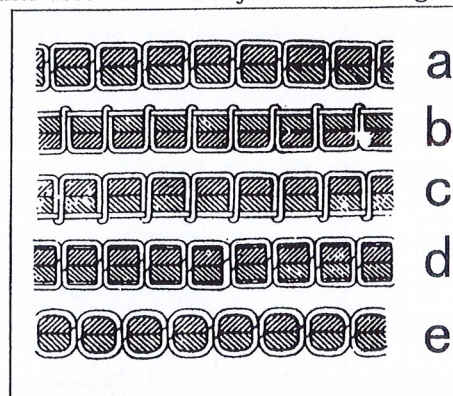
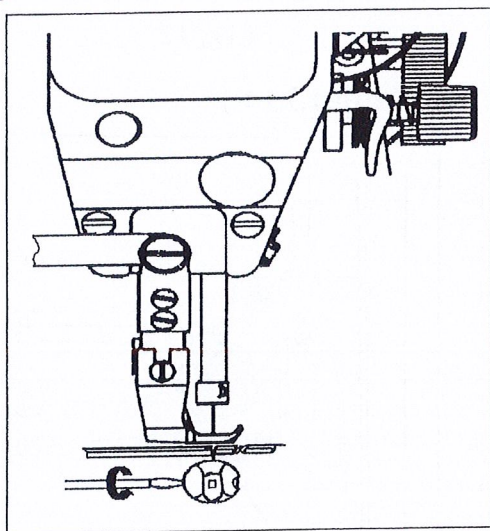

Fig. 15
Fig. 16
## 14. ADJUST THREAD GUIDE AND THREAD TENSION ( Fig.15,16 )
Fig.15 shows different stitch forms. Normal stitch form should be as shown in Fig.15 ( a ). When abnormal stitches cause puckering and thread break-age, the tension of needle thread and bobbin thread must be adjusted accordingly.
1) In case needle thread tension is too strong or bobbin thread tension is too weak, as shown in Fig.15 ( b ), turn the thumb nut counterclockwise to decrease the needle thread tension, or tighten the tension spring regulating screw of bobbin case to increase the bobbin thread tension ( See Fig.16 )
2) In case needle thread tension is too weak or bobbin thread tension is too strong, as shown in Fig.15 ( c ), turn the thumb nut clockwise to increase the needle thread tension, or loosen the tension spring regulating screw of bobbin case to decrease the bobbin thread tension.
3) In case of the stitch forms as shown in Fig.15 ( d ) and ( e ), adjustments can be made with reference to the above means.